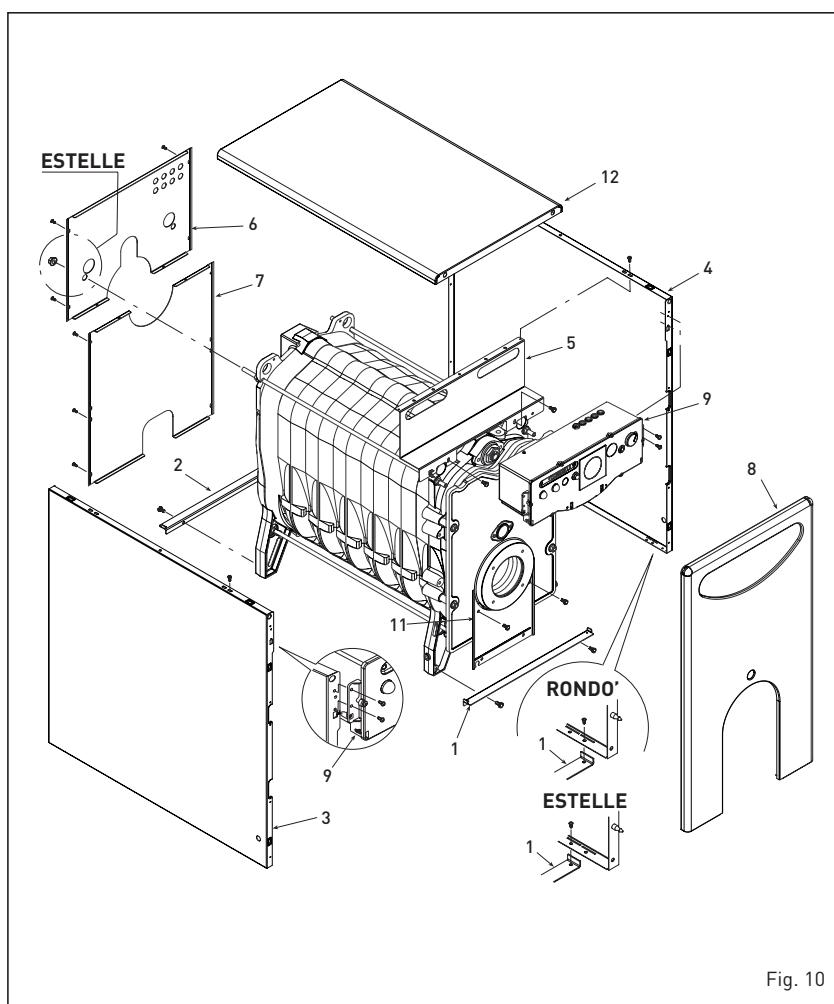

Fig. 10
3.3.3 Disassembly of the casing (fig. 10)
To disassemble the casing of the boiler, proceed as follows (fig. 10):